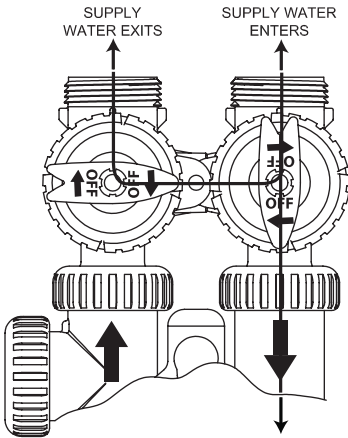

FIGURE 3
Step 2: Press and Hold the REGEN button on the Triton until you hear the motor engage. This will initiate an immediate manual regeneration of the system. Refer to the table on page 9 for Triton cycles of operation. Turn the bypass valve to "diagnostic" mode position (see figure 3 on page 12). (You should hear water entering the system.) Wait a few minutes to ensure the control valve can draw water and does not leak. Allow the system to backwash until the water going to drain is clear. If everything is working, press and release the REGEN button. You will hear the motor engage and move the piston into the "Brine Dn" position. Check the brine line for leaks or suction. You should hear the valve drawing brine. Continue to skip cycles by pressing and releasing the REGEN button (wait for the motor to stop before pressing REGEN) until you reach the "Brine Fill" position. This ensures that water will go to the brine tank. Fill tank 3" to 4" above salt grid. Make sure enough water is in the brine tank to dissolve the correct amount of salt for regeneration (1 gallon of water will dissolve 3 lbs. of sodium chloride). Allow the brine tank to fill with water to air check level. If the system needs 6 lbs. of salt to regenerate, then at least 2½ gallons of water must be in the brine tank above air check in the brine well. The extra ½ gallon is an additional measure for evaporation or loss. ($6 \div 3 = 2$ gallons of water plus ½ gallon). Fill the brine tank with salt. (We recommend potassium chloride (KCl) instead of rock salt.) Once the brine tank is filled to this level, press REGEN once more to return the valve to service. You should hear the motor engage for a short period and then a long period.
Figure 3. Diagnostic Position: The inlet handle points in the direction of flow and the outlet handle points to the center of bypass valve, system water pressure is allowed to the control valve and the plumbing system while not allowing water to exit from the control valve to the plumbing.